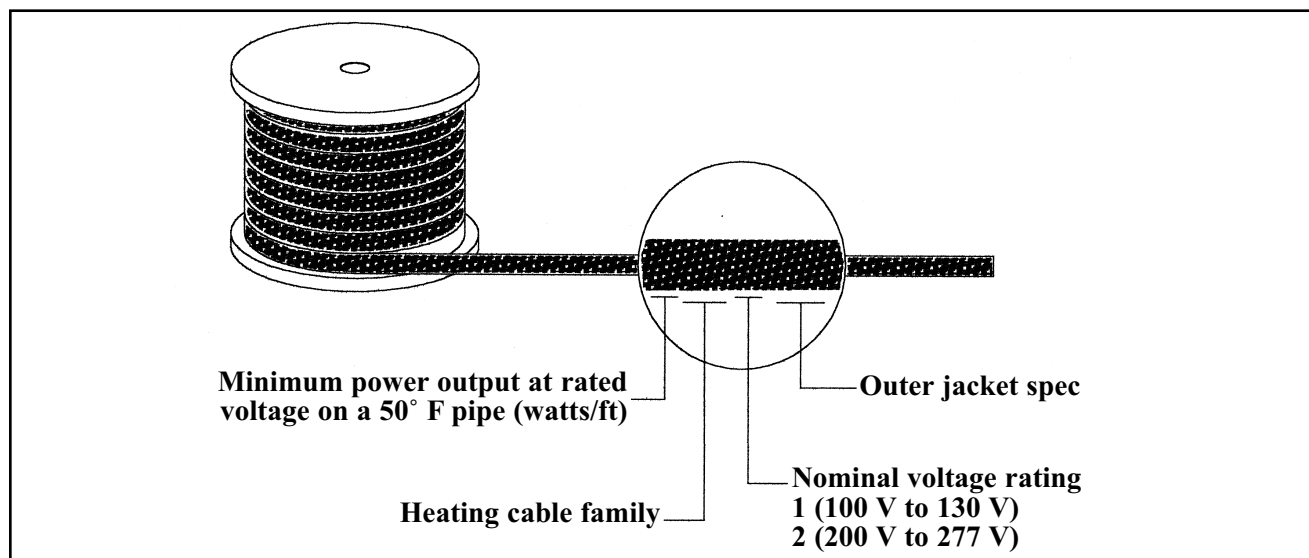

Figure 4.1.1(e). Typical cable marking information required on jacket
- e) Verify the heating cable catalog number and quantity against the bill of materials. The heating cable catalog number is typically printed on the cable jacket, immediately or overjacket. *(See Figure 4.1.1(e)).*